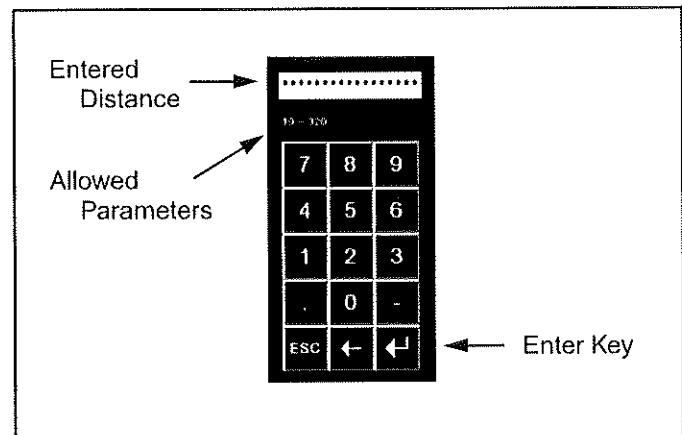

Figure 71
- Enter radial arc distance (select 10-320 ft) press enter (Figure 71).
- Enter extension distance press enter (Figure 71). (Select 10-46 - TS110 / 10-56 - TS130 / 10-66 - TS 150 & 170 / 10-86 - TS190)
- f. Enter radial increment (select 1-9 ft) press enter (Figure 71).
- h. Enter extension increment (select 1-9 ft) press enter (Figure 71).